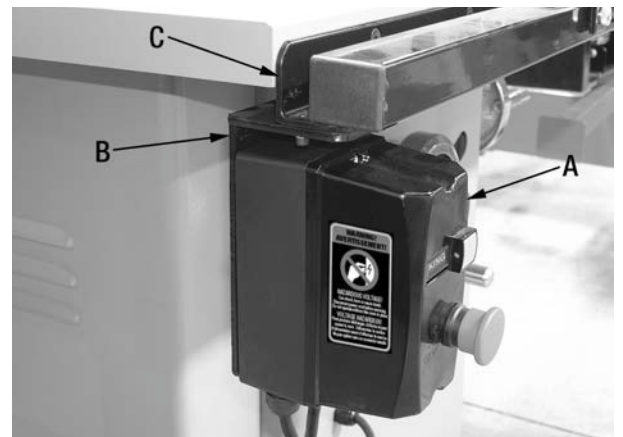

FIGURE 5
If your King cabinet saw comes with a magnetic safety switch (A) Fig.5 and is attached to a mounting bracket (B), mount the mounting bracket underneath the left end of the front rail (C) using 2 cap screws, washers and spring washers.